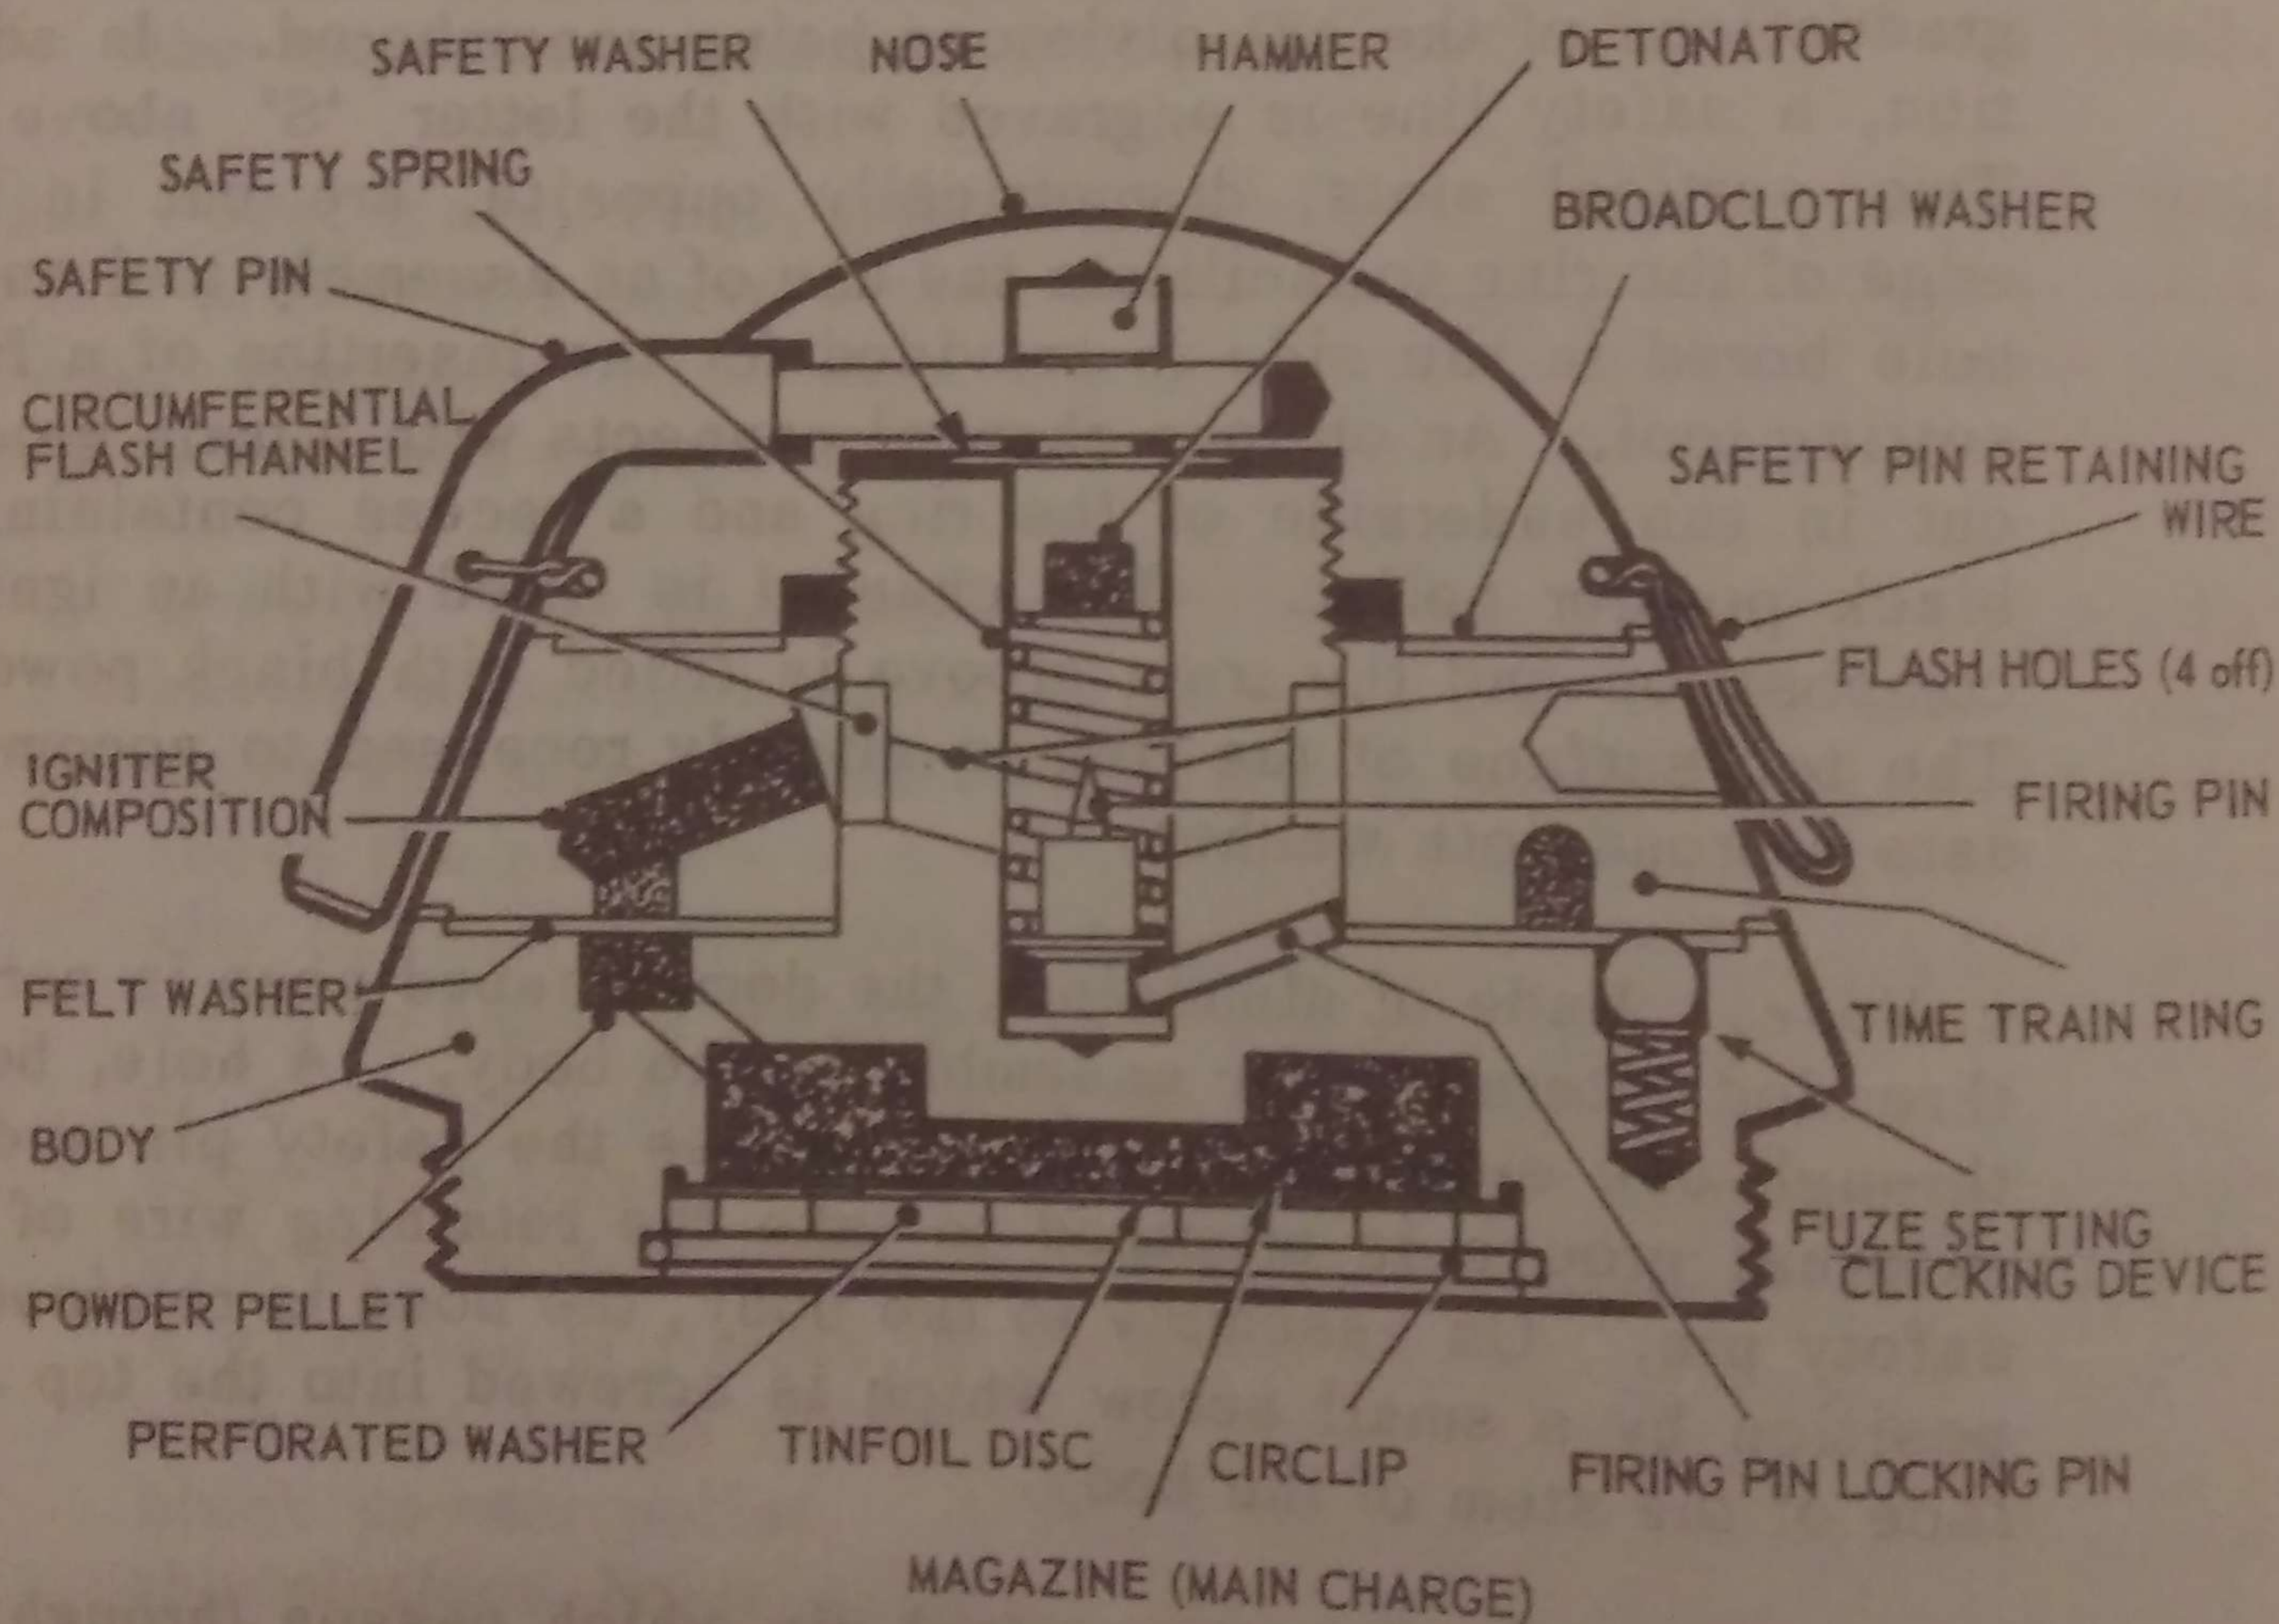

Fig 40 Fuze, Time, L77 (Swedish design)
99. *Fuze, Nose, Time, L77A1 (Fig 40).* This is a simple time fuze of Swedish manufacture which consists, principally, of a body, time-train ring, nose, hammer, safety spring, firing pin, safety pins and explosive elements.